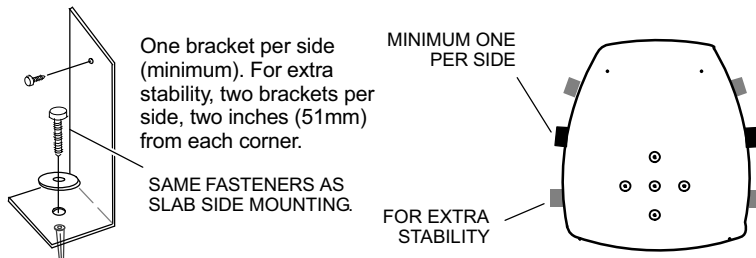

Figure 5. Placement, Slab Mounting and Stabilizing Unit
- When possible, do not install the unit directly outside a window. Glass has a very high level of sound transmission. For proper placement of unit in relation to a window see the provided illustration in figure 5, detail A.
When installing unit at grade level, the top of the slab should be high enough above grade so that water from higher ground will not collect around the unit. The slab should have a slope tolerance as described in figure 5, detail B.
NOTE — If necessary for stability, anchor unit to slab as described in figure 5, detail D.
Units are outfitted with elongated support feet as illustrated in figure 5, detail C.
Install the unit a minimum of 6 inches (152 mm) above the roof surface to avoid ice build-up around the unit. Locate the unit above a load bearing wall or area of the roof that can adequately support the unit. Consult local codes for rooftop applications. See figure 5, detail F for other roof top mounting considerations.